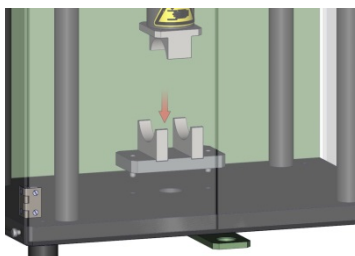

Figure 6.2.6
2. Align the Twin-Transverse Shear Attachment Base on the Minilab Base Plate (Figure 8.1, Item 9), ensuring that attachment cylinder pins are mounted in the corresponding holes on the machine base (see Figure 6.2.6).